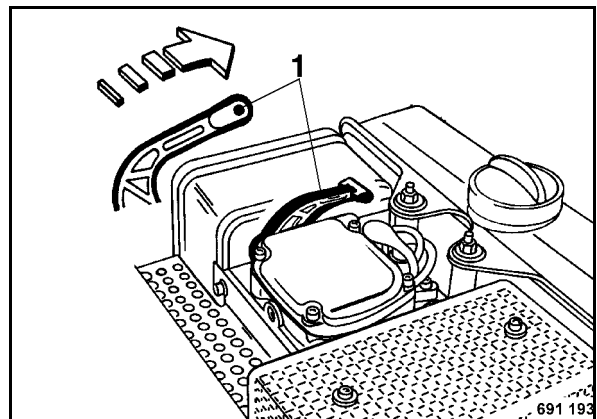

Fig. 54
- Decompression lever 1 (Fig. 54) must be initial position.